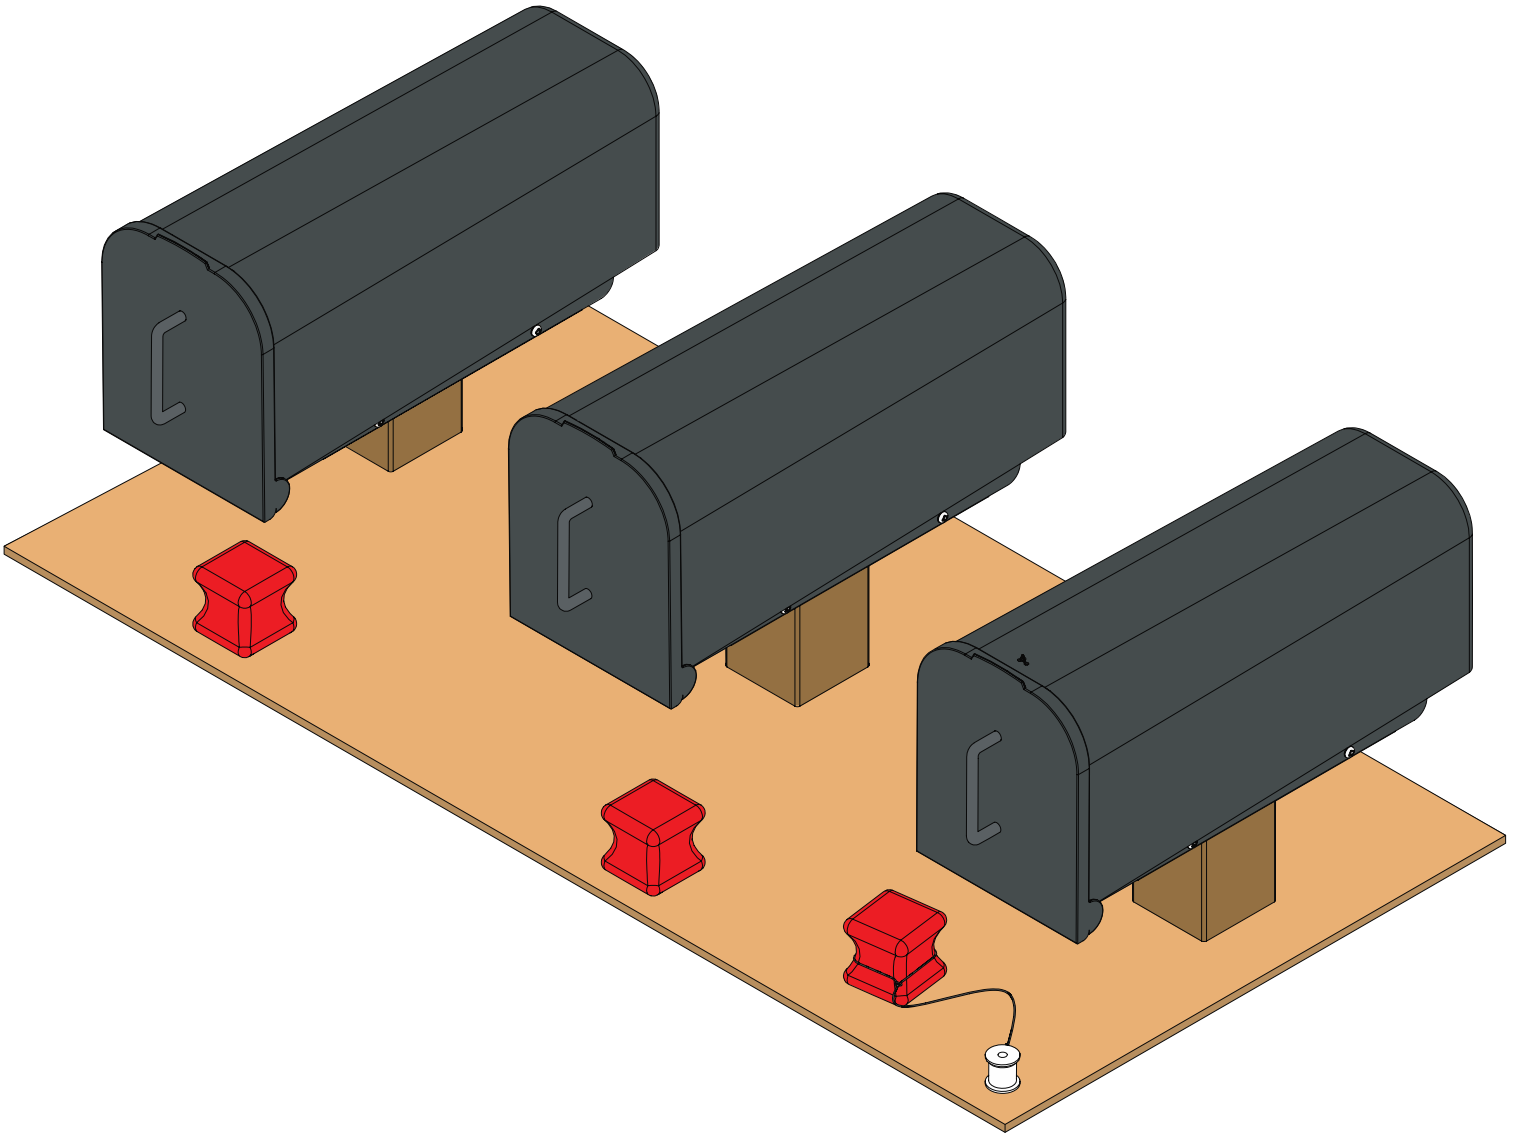

Figure 1
- Each mailbox will be equipped with a handle on the exterior of door to afford a point of contact for the arm mechanism of the robot in addition to the original features inherent to the supplied/recommended mailboxes (see Figure 1).